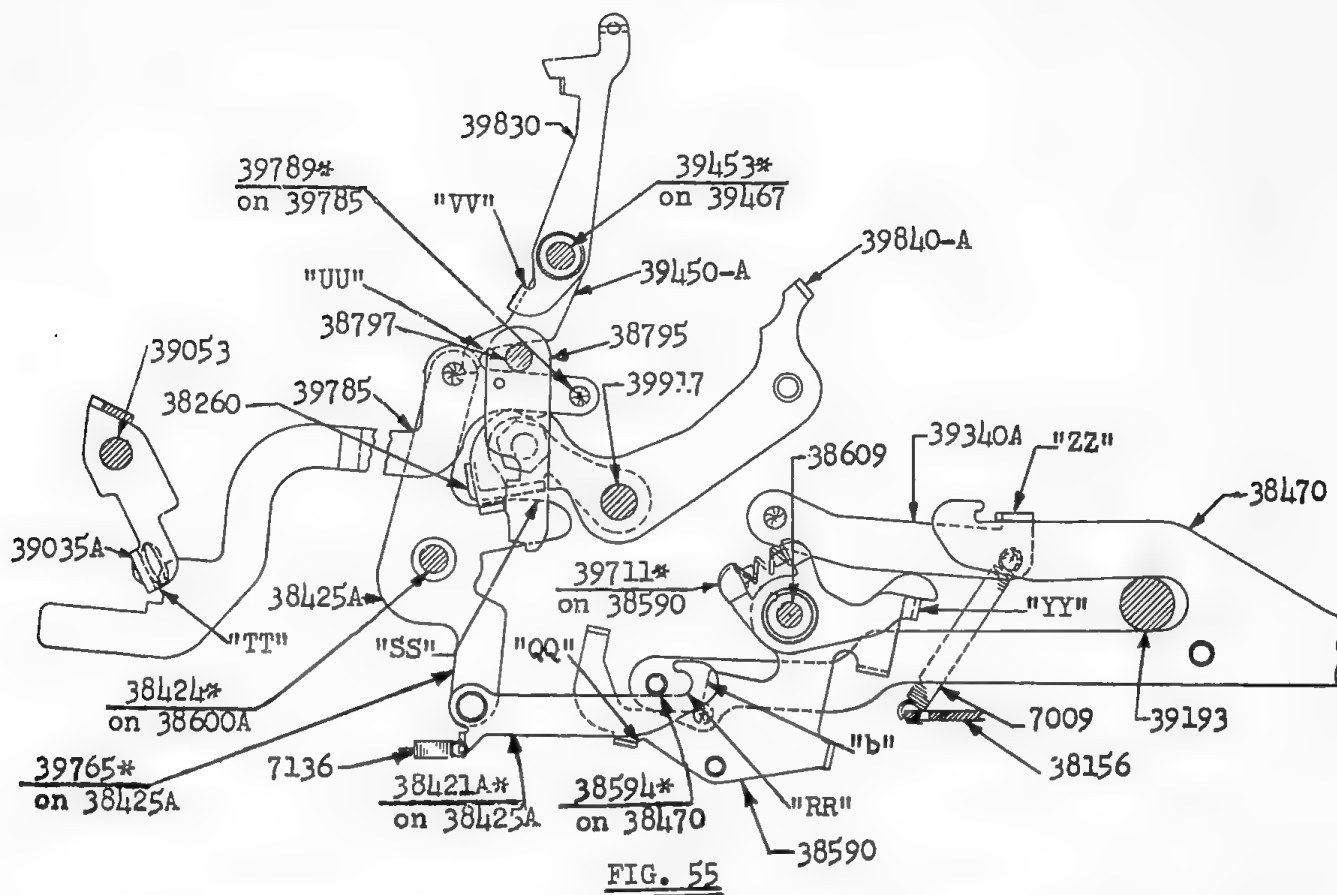
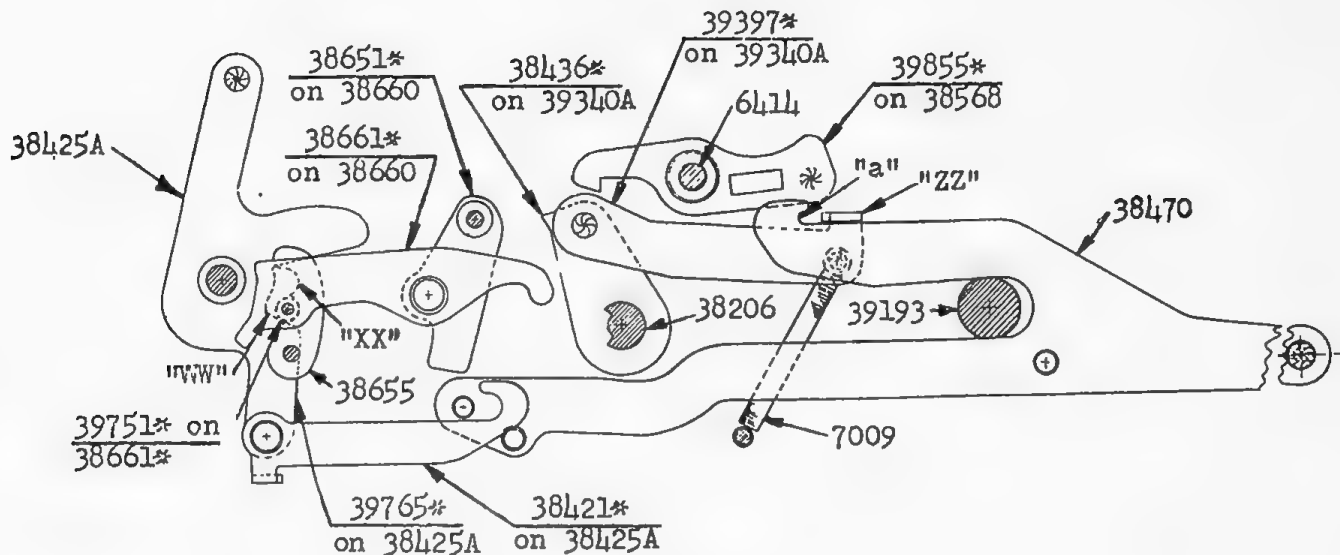

FIG. 55
FIG. 56
3. (Fig. 55 & 56). When the Multiplier Terminating Lever-38590 is released to rock clockwise it converts the normal restore cycle into what will be termed a "Last Restore" operation. Ear "QQ" on 38590 rocks the Link-38421A* upwards so that the hook "RR" on 38421A* can be picked up by Stud-38594* on the Restore Link-38470 when 38470 moves rearward as in any other restore cycle. The Multiplier Restore Lever-38425A therefore rocks
- a. (Fig. 55). Its surface "SS" underlies the Shift Terminating Bail-38260 and restores it clockwise so that its Arm-39840A can be latched up by 38795.
- b. (Fig. 55). Connected to the upper end of 38425A is the Keyboard Clear Restore Link-39785 which is moved forward so that its surface "TT"
c. (Fig. 55). Stud 39789* on 39785
d. (Fig. 56). Surface "WW" on
4. (Fig. 55 and 56). When 38590 rocks clockwise, ear "YY" on its Live Point-39711* moves down and thereby allows the Selection re-store link-39340A to drop until ear "ZZ" on 39340A stops on re-store Link-38470, (Fig. 55). When Link-38470 subsequently moves rearward, its hook "a", (Fig. 56), catches ear "ZZ" on 39340A and pulls it rearward, thereby restoring Shaft-38206 through the twin Lever-38436* to a point where they can again be latched up by Latch-39855* on 38568. This clears
5. (Fig. 55). Stud-38594* on 38470 also restores 38590 through surface "b" back to its normal latched position.